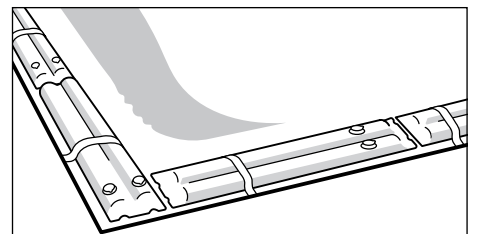

figure 5
5. Insert empty water tubes (sold separately) into attached cover loops making sure the water tubes cover the entire perimeter end to end, with little to no space in between. (Figure 5) This will prevent wind from getting under the cover and causing the cover to billow or flap. CAUTION: Such billowing or flapping in the wind may cause considerable damage to your cover.